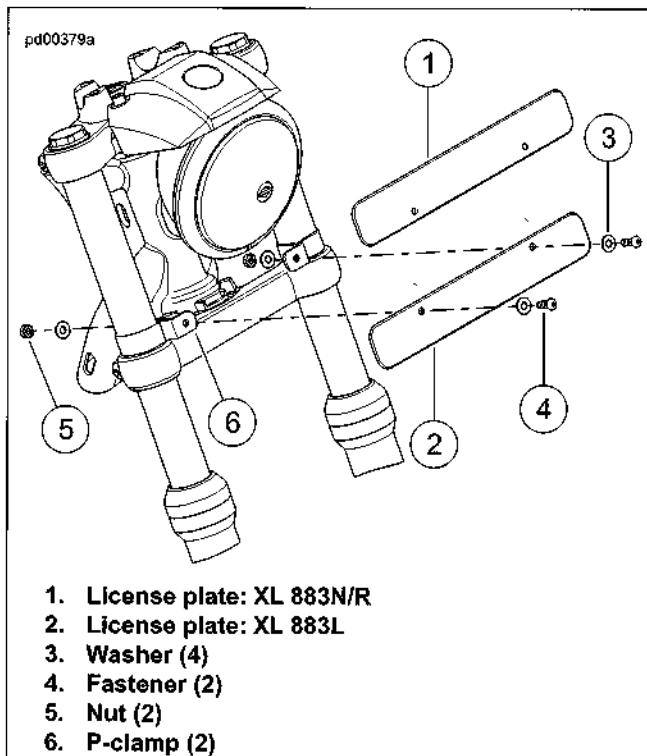

Figure 2-136. License Plate Mount: XL 883L/N/R (India)
- See Figure 2-136. Install P-clamps (6) on fork tubes.
- Install license plate to P-clamps. Install fasteners (4), washers (3) and nuts (5).
- XL 883N/R (1)
- XL 883L (2)